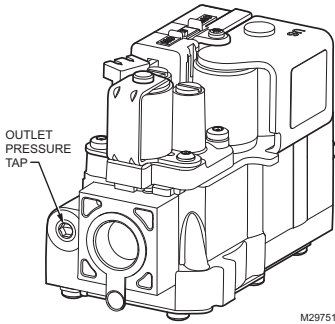

Fig. 3. Gas conversion kit: outlet.
- With main burner operating on high fire, calibrate the high fire regulator setting using the meter clocking method or using a manometer connected to the outlet pressure tap on the control. See Fig. 3.
6. With main burner operating on low fire, calibrate the low fire regulator setting using the meter clocking method or using a manometer connected to the outlet pressure tap on the control. See Fig. 3.